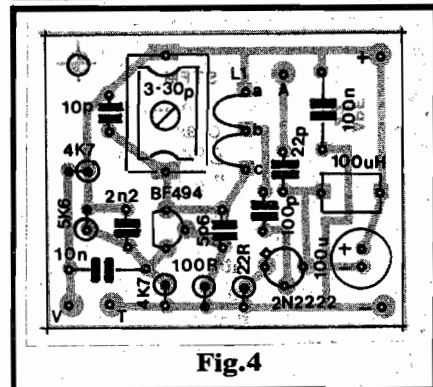

Fig.4
- **FIG. 4 - O "CHAPEADO" DA**